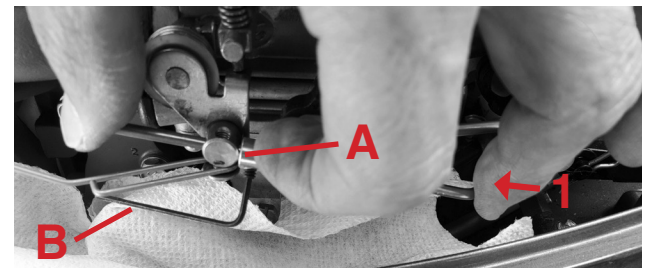

Fig. 4
Step 5: See Fig. 4
- Slide collar (A) on throttle rod until it **LIGHTLY** touches the brass carb fitting.
- Use supplied 1/16 Allen wrench (B) to tighten set screw of collar.